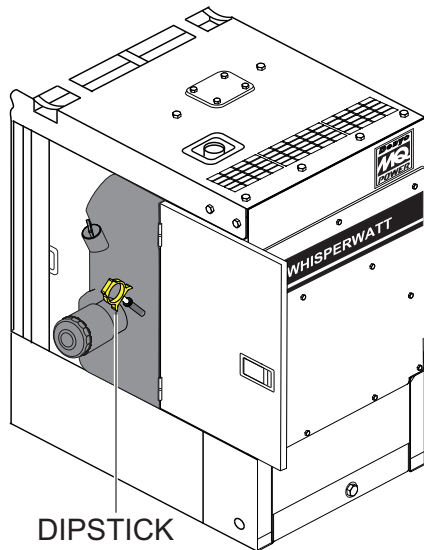

Figure 28. Engine Oil Dipstick
2. Remove the dipstick from its holder (Figure 28) and wipe it clean.